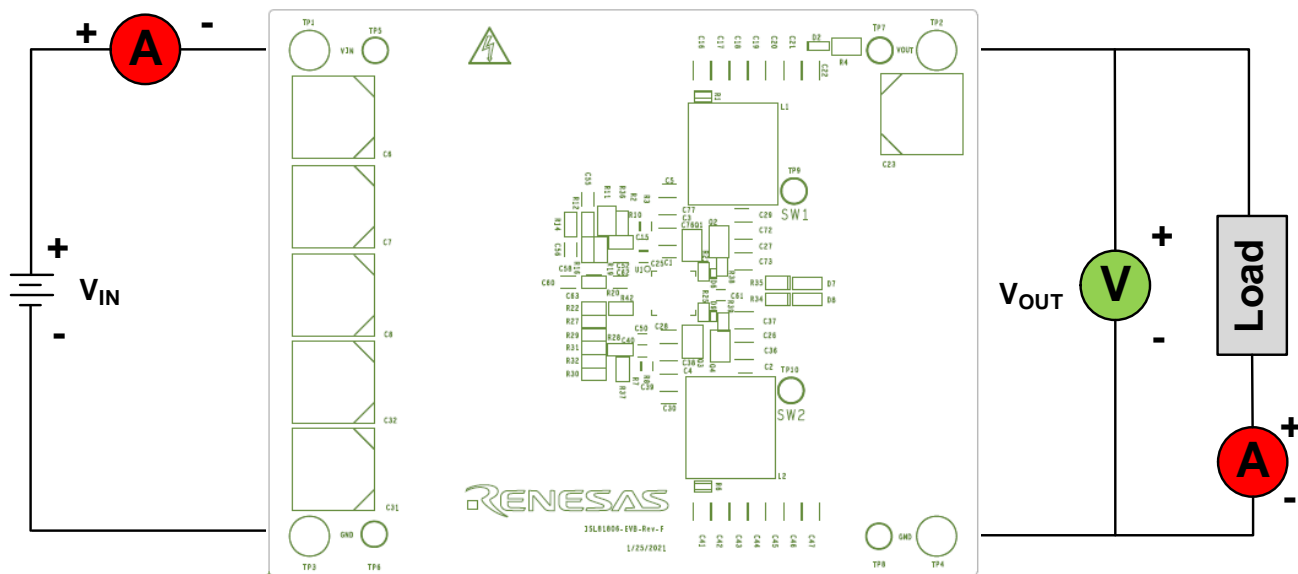

Figure 3. Proper Test Setup
As shown in Figure 3, 18V to 80V V_{IN} is supplied to VIN and GND. The regulated 12V output on VOUT and GND can supply up to 20A to the load. Because of the high power efficiency, the evaluation board can run at 20A continuously with airflow 1700LFM at room ambient temperature conditions.
1. Ensure that the circuit is correctly connected to the power supply and electronic loads before applying any power. See Figure 3 for the proper setup.